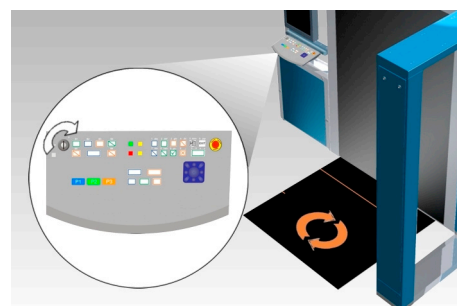

Fig. 52: Key switch of the local operator keyboard
- ▷ Turn the key switch of the eqo system clockwise (into position II) in order to switch on the unit (see Fig. 52). The key switch will backslide automatically to position I.